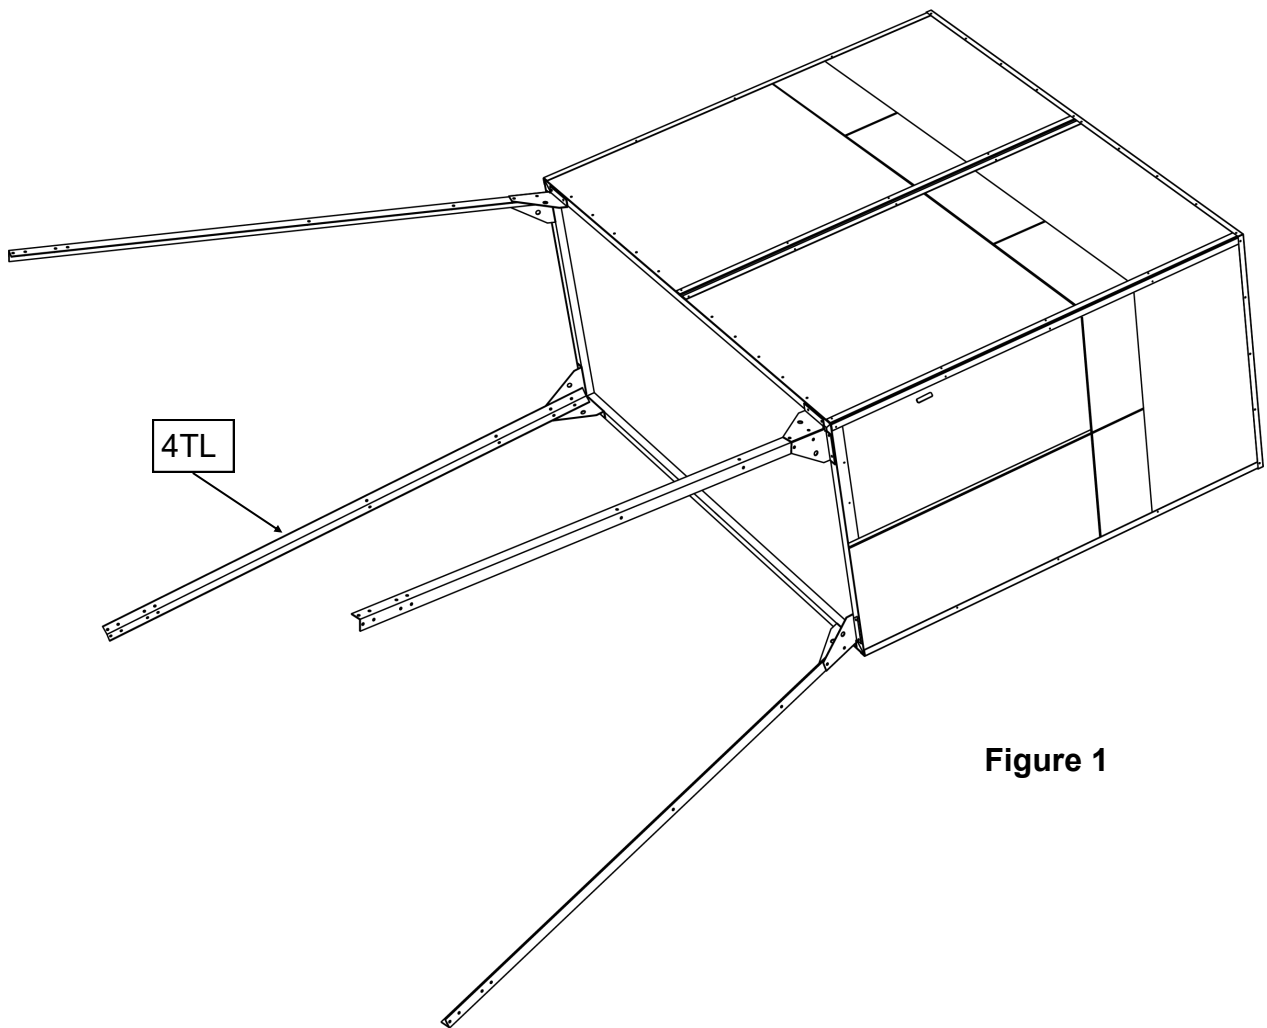

Figure 1
Step 1: Attach the (4TL) Legs to the Blind Assembly. (Figure 1)